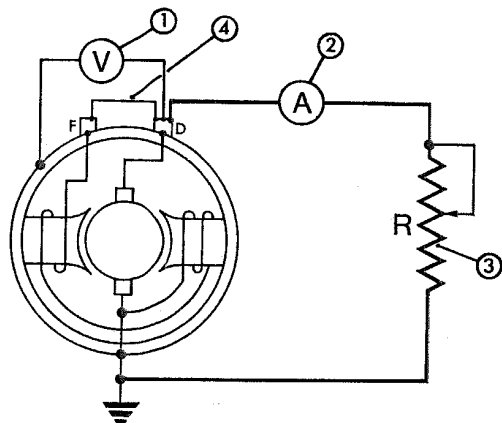

Fig. 13 Test circuit for checking the performance of earth-return dynamos
A suitable circuit for testing earth-return dynamos is shown in Fig. 13, which comprises a moving-coil voltmeter (V) 0-20V range, a moving-